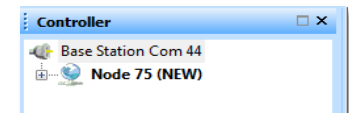

Figure 4: Node 75
6. Turn the IEPE-Link™ -LXRS® module ON (switch up) and Node X will appear in the tree under Base Station Com 44; in our Figure 4 example we see Node 75; this indicates that communication is established with the IEPE-Link™ -LXRS®.